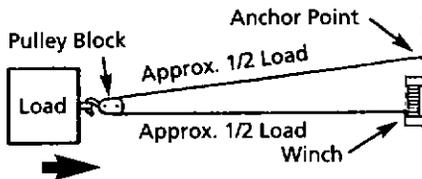

Figure 2
2. FOR LARGER LOADS, USE PULLEY BLOCK AND HOOK ASSEMBLY TO DOUBLE LINE WIRE ROPE (See Figure 2). This reduces load on the